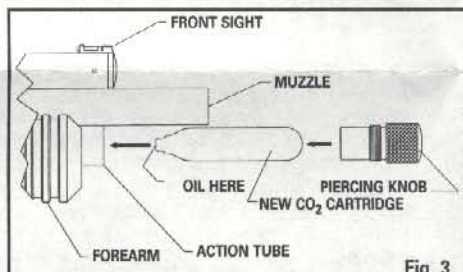

Fig. 3
- Insert the CO₂ cartridge into the paintball marker with the small neck of the CO₂ cartridge into the action tube first as shown in Fig. 3.
- While holding the marker with the muzzle in the downward position, slide the forearm back until the sear engages with two clicks (Fig. 3).
- Put a drop of SHERIDAN Marker Oil on the tip of every CO₂ cartridge before inserting into the paintball marker. DO NOT use a petroleum distillate based oil or solvent as they can cause damage to your paintball marker (See Fig. 3).